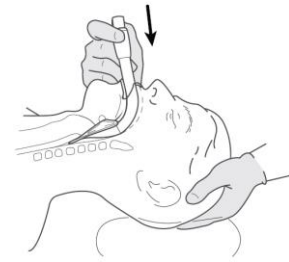

Figure 10: Advance the device into the lower pharynx until resistance is felt.
6. Resistance should be felt when the distal end of the device meets final position in the lower pharynx. The device is now fully inserted. (Fig. 10)